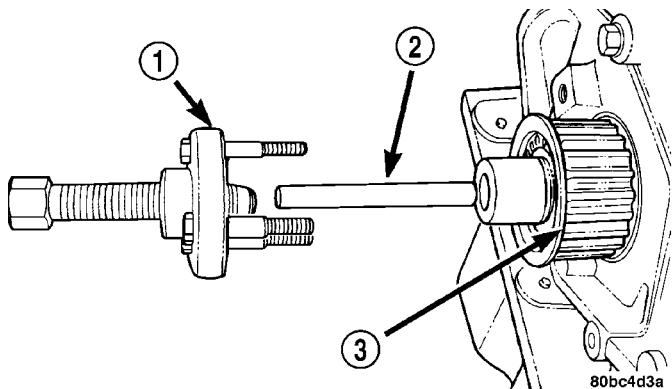

Fig. 94 Crankshaft Sprocket - Removal
(4) Remove oil pan (Refer to 9 - ENGINE/LUBRICATION/OIL PAN - REMOVAL).
(5) Remove crankshaft sprocket using Special Tools 6793 and C-4685-C2 (Fig. 94).